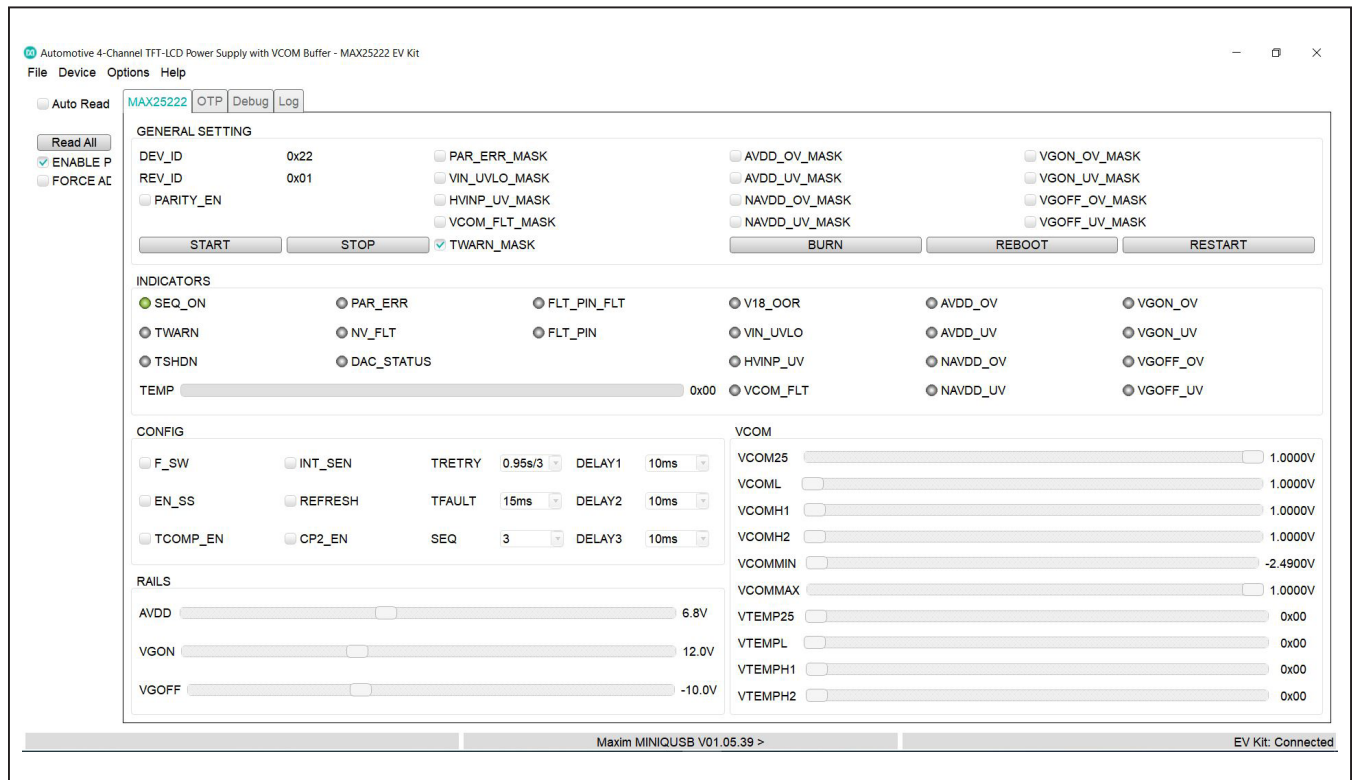

Figure 1. MAX25222 Evaluation Kit Software (GUI)
- From the EV kit software toolbar, select **Device** → **Scan for Address** Verify the ENABLE PIN in the GUI is enabled. The GUI scans the I²C bus for available slave addresses on the bus and selects the first one (in this case, the MAX25222 I²C address with J5 settings: 42H). Press **OK** once the MAX25222/MAX25222C I²C address has been found. Figure 1, is a screen capture of MAX25222 evaluation kit software (GUI).